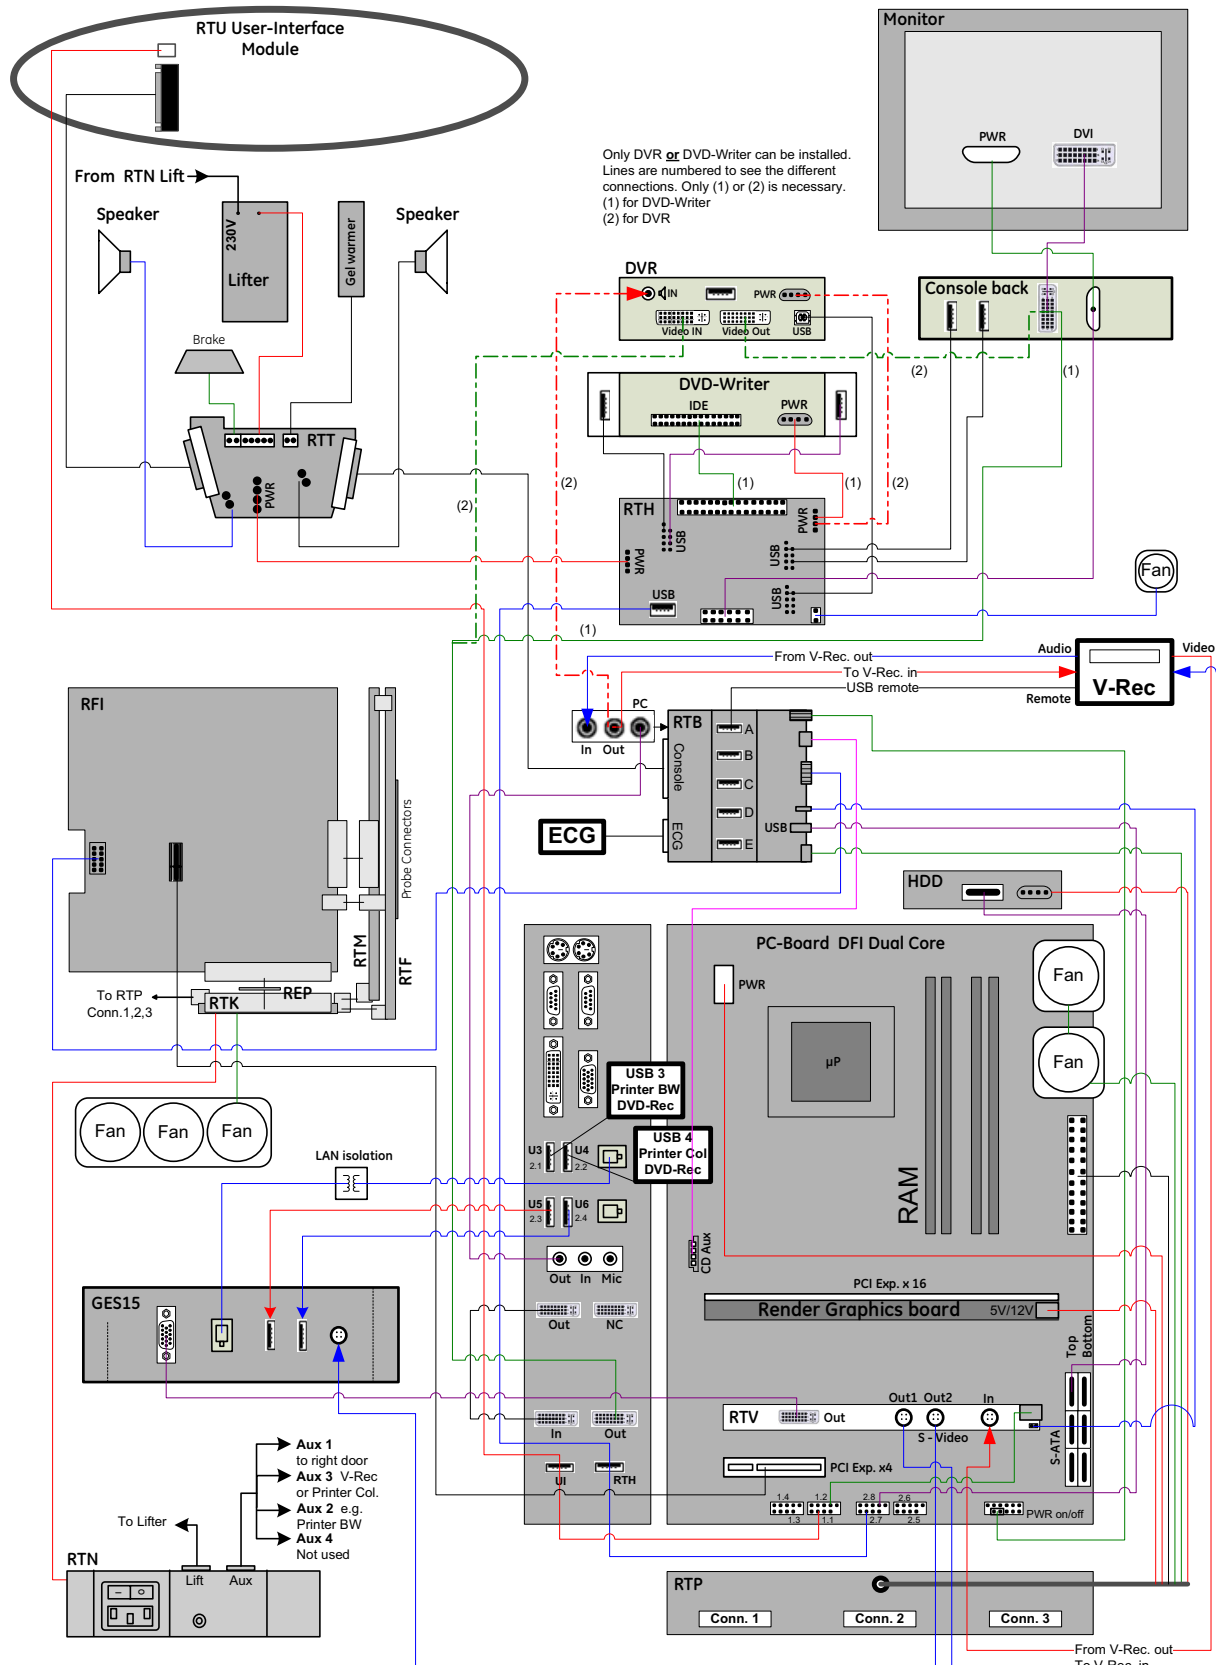

Figure 5-23 Voluson E8 / Voluson E6 (BT12/BT13): Internal I/O - DFI Dual-core PC-Motherboard
- “DFI Dual-core” PC Motherboard is installed, see: Figure 5-23 on page 5-47.